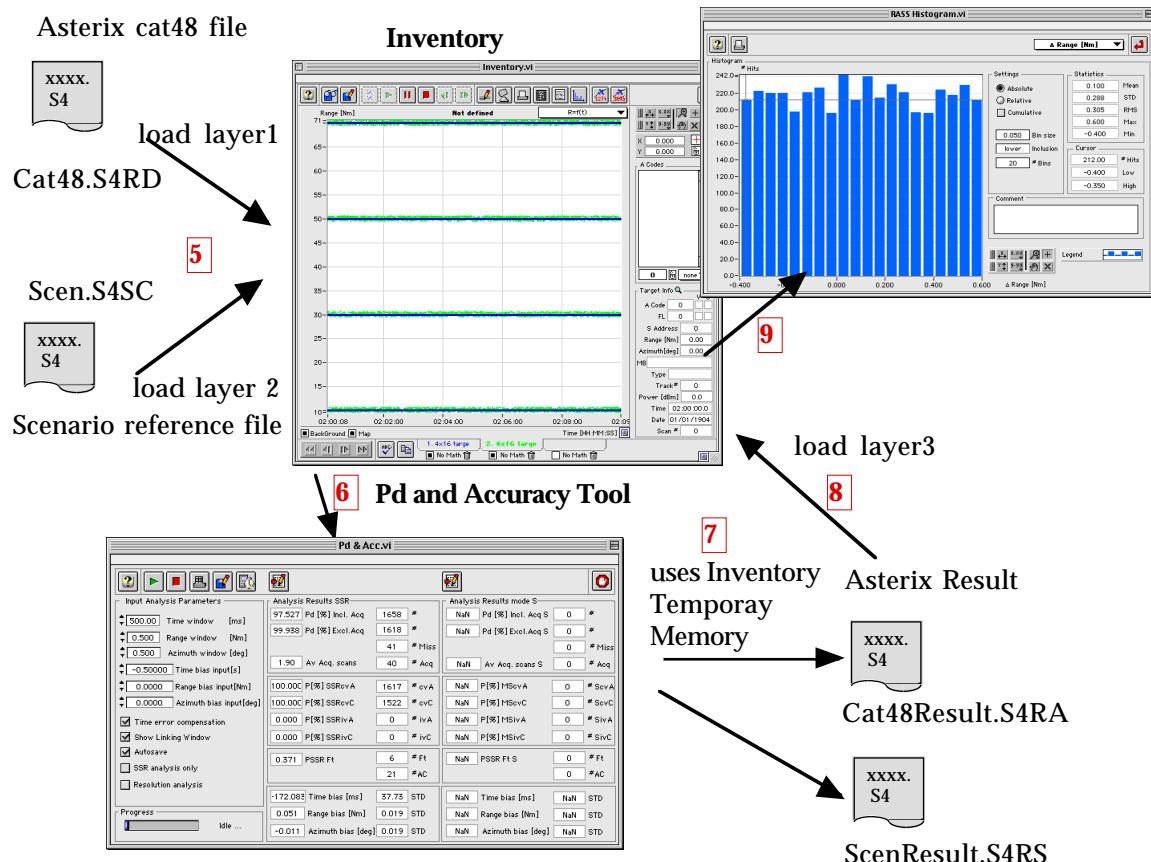

Fig 2: Steps for Pd and Accuracy calculation
-Playback the scenario and record the asterix data simultaneously using the EDR plus GPS time synchronisation (see figure 2)